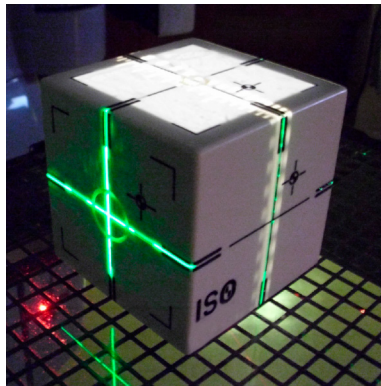

Figure 1.
4. With gantry positioned AP, set MLC/jaws to 10cm by 10cm and verify light field coincidence relative to engraved markings on top surface of the phantom. Record ODI value to top of the phantom. (See Figure 1 & 2)